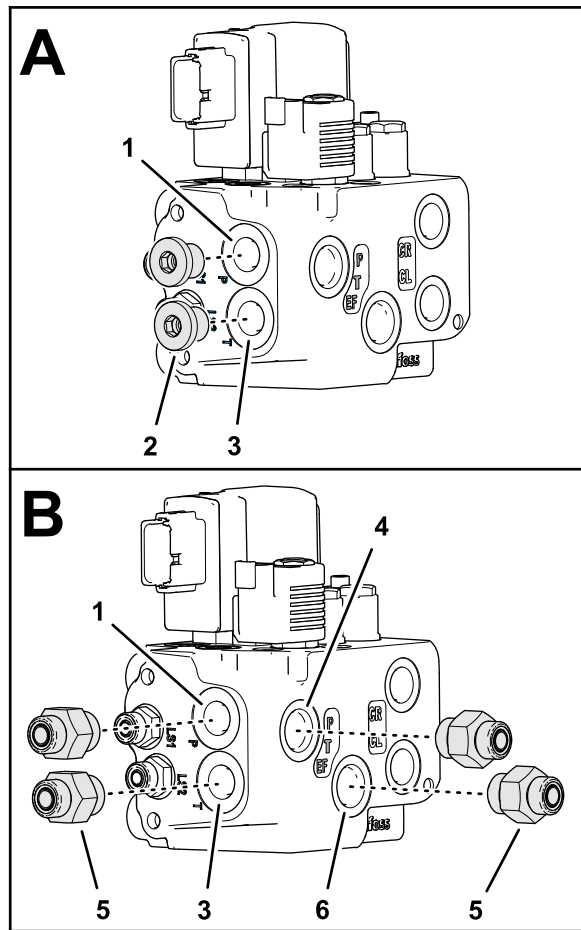
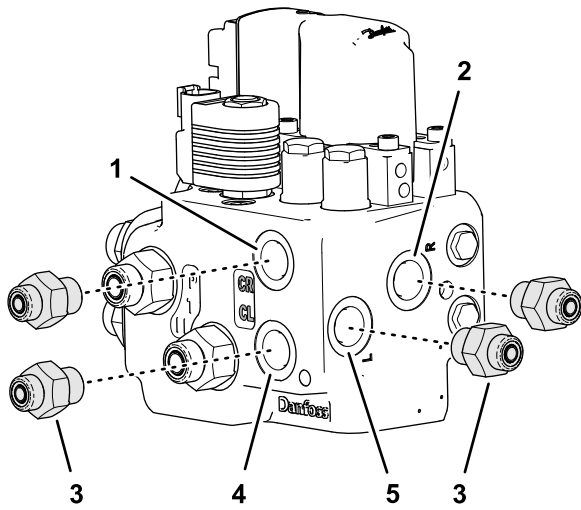

Figure 79
Figure 80
2. Remove the 2 plugs from port P and port T of the EHI steering valve (Figure 79).
3. Assemble 4 straight hydraulic fittings (-6 x 22 mm) into the valve (Figure 79) as follows:
- Port P (EF)
- Port T (EF)
4. Assemble 4 straight hydraulic fittings (-6 x 18 mm) into the EHI steering valve (Figure 80) as follows: